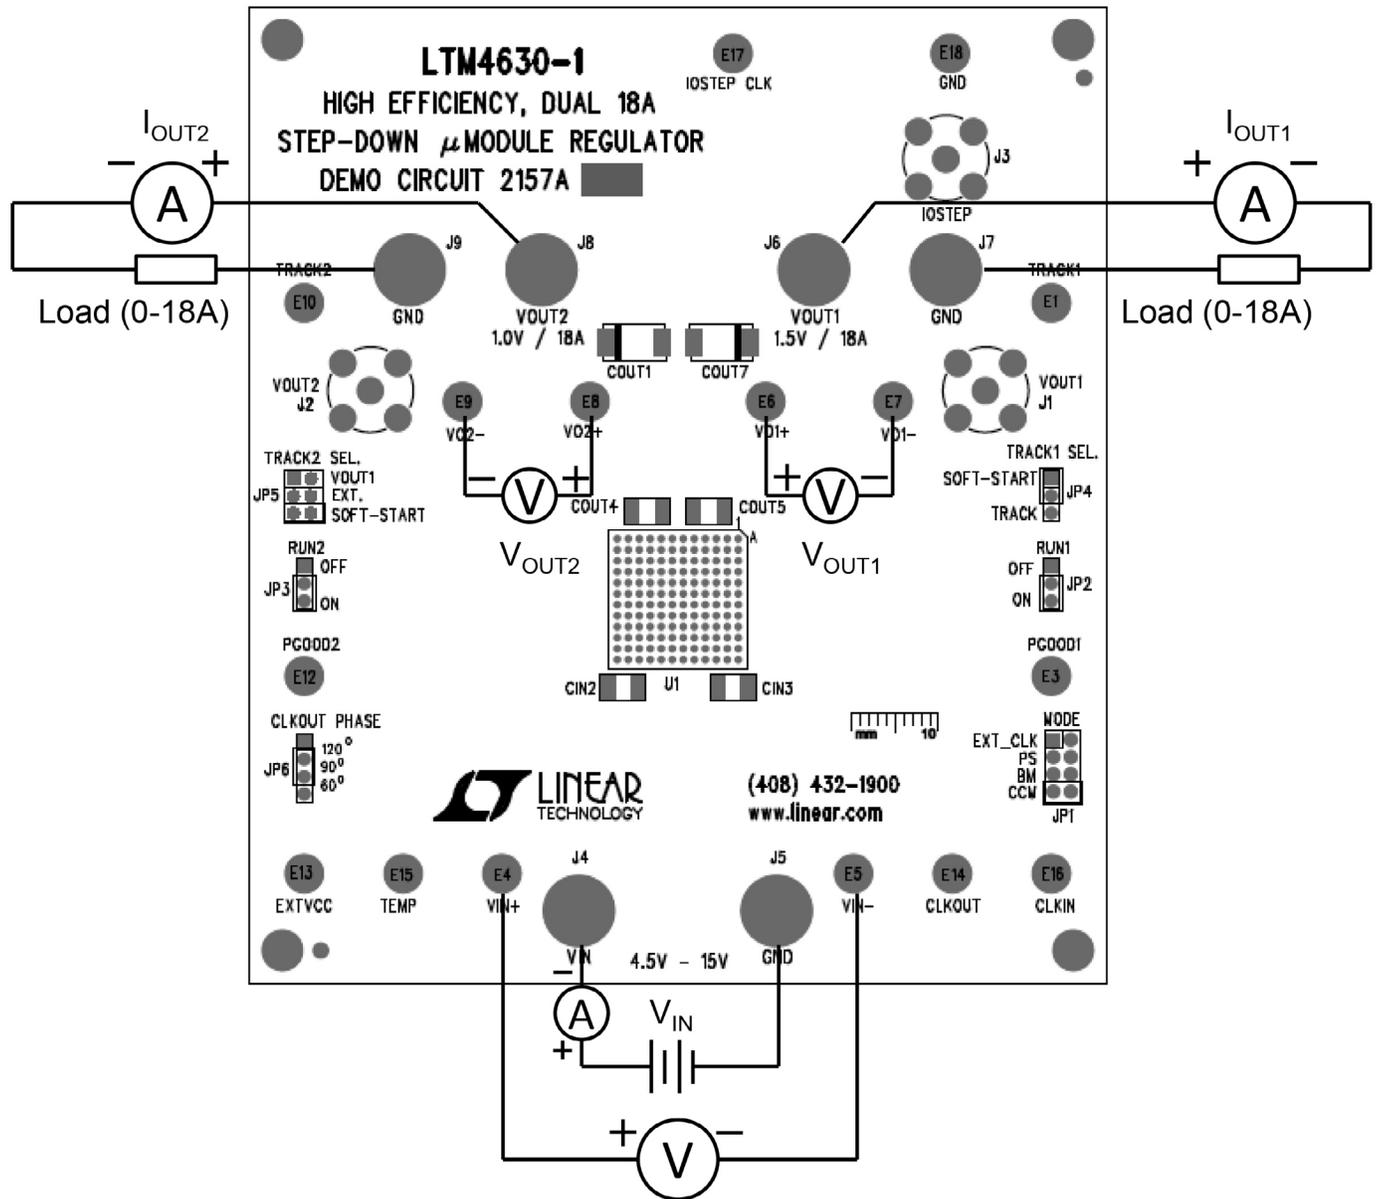

Figure 1. Test Setup of DC2157A
Demonstration circuit DC2157A is easy to set up to evaluate the performance of the LTM4630-1. Please refer to Figure 1 for proper measurement setup and follow the procedure below:
- With power off, connect the input power supply, load and meters as shown in Figure 1. Preset the load to 0A and V_{IN} supply to 12V.